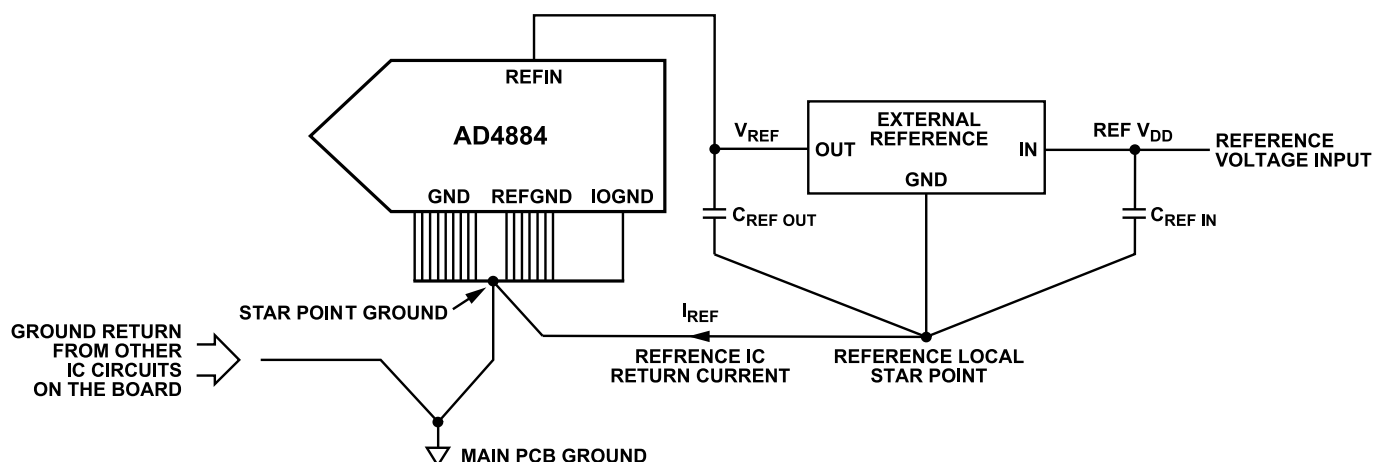

Figure 144. AD4884 External Reference Ground Connections
- ▶ Recommended connections of ground (GND), reference ground (REFGND), and digital ground (IOGND) connections are shown in Figure 144. It is recommended not to keep the current return path of the reference IC in the same current loop as the current return loop from other circuitry on the PCB. Connect the reference local star point to the ADC star point ground on the top layer of the PCB, as shown in Figure 144.